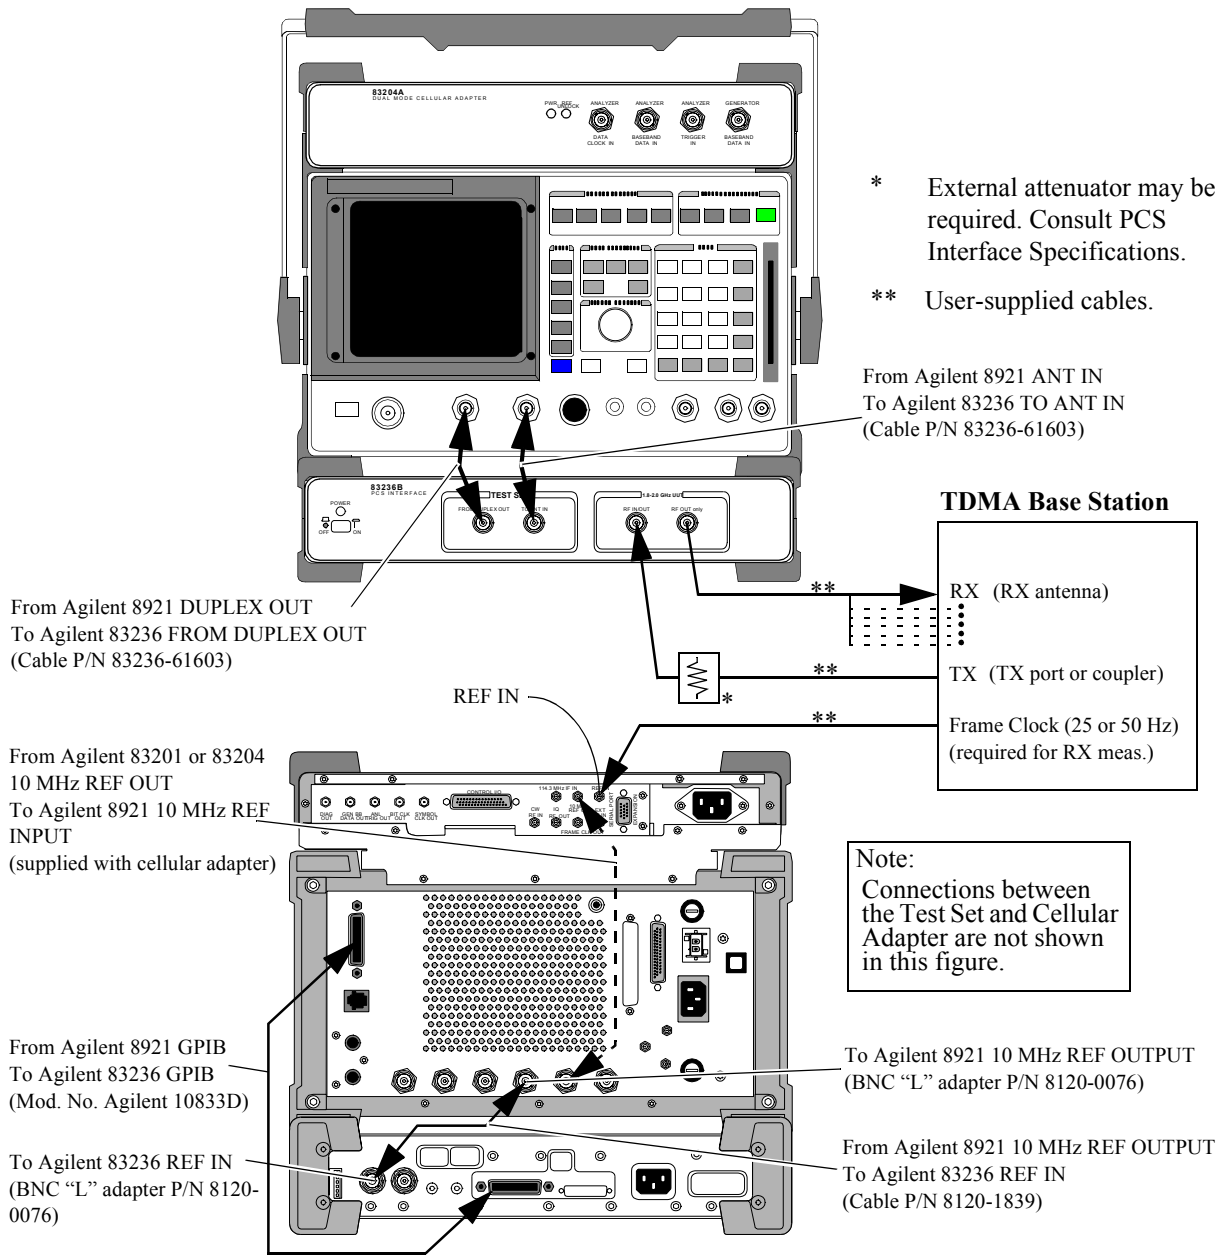

Figure 18 Connection Diagram for the Agilent 8921 Test Configuration (TDMA Base Station Tests with Frame Clock)
- TDMA base station with frame clock: See figure 18.